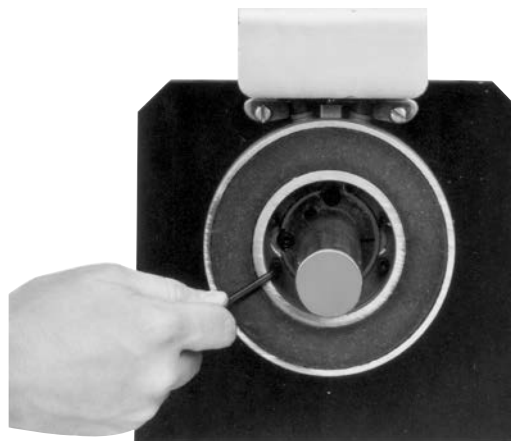

Figure 3
3. Once the mounting surface has been prepared, the magnet is bolted in place with capscrews and lock-washers. (Figure 3)